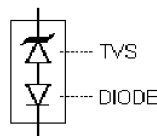
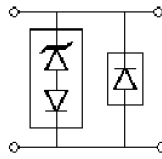
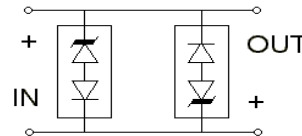

FIGURE 4
FIGURE 5
FIGURE 6
This surface mount Transient Voltage Suppressor (TVS) product family includes a rectifier diode element in series and opposite direction to achieve low capacitance below 100 pF. They are also available as RoHS Compliant with an e3 suffix. The low TVS capacitance may be used for protecting higher frequency applications in inductive switching environments or electrical systems involving secondary lightning effects per IEC61000-4-5 as well as RTCA/DO-160D or ARINC 429 for airborne avionics. They also protect from ESD and EFT per IEC61000-4-2 and IEC61000-4-4. If bipolar transient capability is required, two of these low capacitance TVS devices may be used in parallel and opposite directions (anti-parallel) for complete ac protection (Figure 6).
- * When pulse testing, do not pulse in opposite direction (see "Schematic Applications" section herein and Figures 5 & 6 for further protection in both directions)
The TVS low capacitance device configuration is shown in Figure 4. As a further option for unidirectional applications, an additional low capacitance rectifier diode may be used in parallel in the same polarity direction as the TVS as shown in Figure 5. In applications where random high voltage transients occur, this will prevent reverse transients from damaging the internal low capacitance rectifier diode and also provide a low voltage conducting direction. The added rectifier diode should be of similar low capacitance and also have a higher reverse voltage rating than the TVS clamping voltage V_C . The Microsemi recommended rectifier part number for the application in Figure 5 is the "SMBJLCR80" or "SMBGLCR80" depending on the terminal configuration desired. If using two (2) low capacitance TVS devices in anti-parallel for bidirectional applications, this added protective feature for both directions (including the reverse of each rectifier diode) is inherently provided in Figure 6. The unidirectional and bidirectional configurations in Figure 5 and 6 will both result in twice the capacitance of Figure 4.